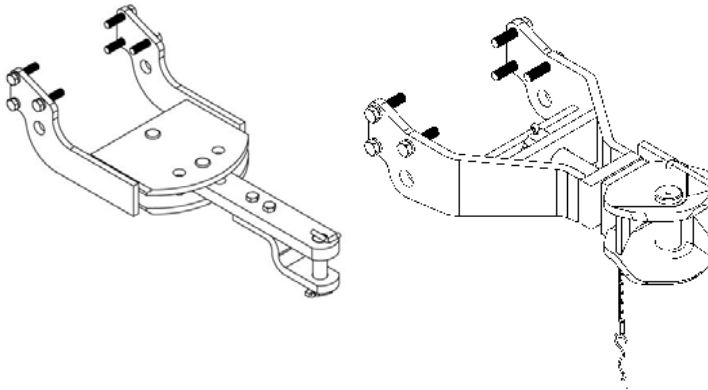

Fig 4-26
- 1、 Disassemble the levers of 3 point hitch system; attach the draw bar (see fig 4-26) to the tractor. Then remove the pin from draw bar hole and attach trailer to draw bar.